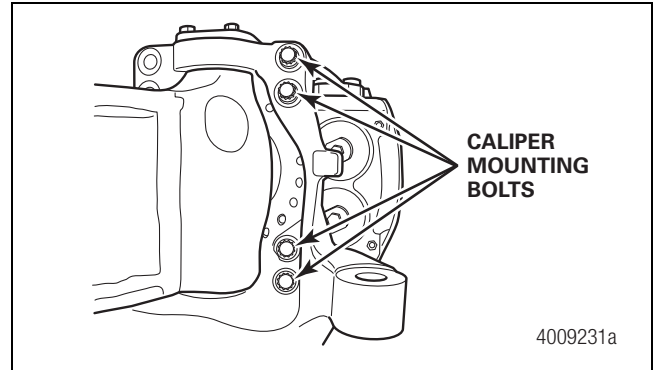

Figure 9.7
1. Use a 7/8" 12-point socket to remove three of the caliper mounting bolts. Figure 9.7.